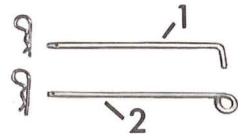

Fig. 3
Two rods are provided of different thickness. Note: The calibration table has been compiled using the thick rod (Fig. 3/1). For intermediate quantities use the thin rod (Fig. 3/2).
1. Place thick selector pin (Fig. 3/1) in the C-3 holes in the regulator plates as shown.